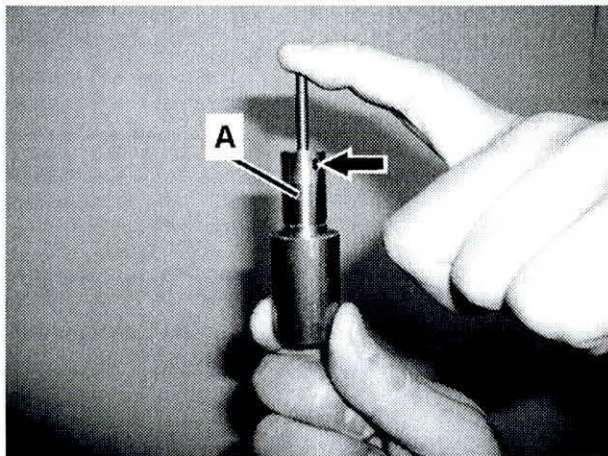
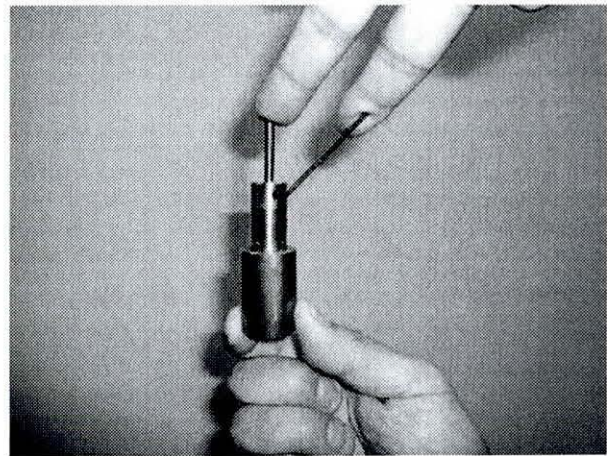

Figure 9
Figure 10
4. Set drilling depth with arresting sleeve (A, Figure 9):
- Slide arresting sleeve (A, Figure 9) onto protruding drill bit shaft up to end stop.
- Tighten grub screw (arrow, Figure 9) with Allen wrench (Figure 10).